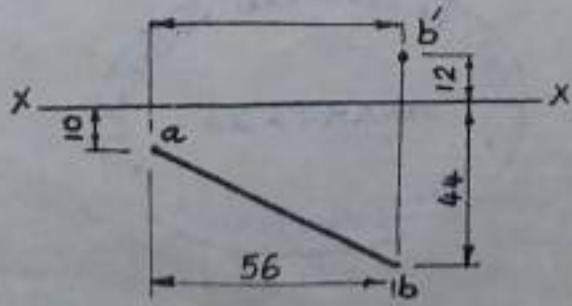

Fig. 4
4. The plan of a line 82 mm long is shown on figure 4. The elevation of one end is at 'b'.